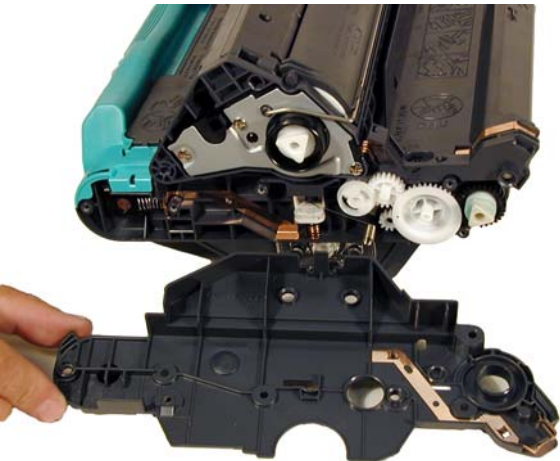

Figure 10
7) Remove the end cap. See **Figure 10**